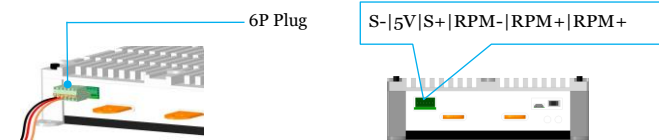

Fig. 4: Signal wiring diagram
- Step ③: Connect the signal wires and plug into the 6P signal socket (see: Fig. 4)